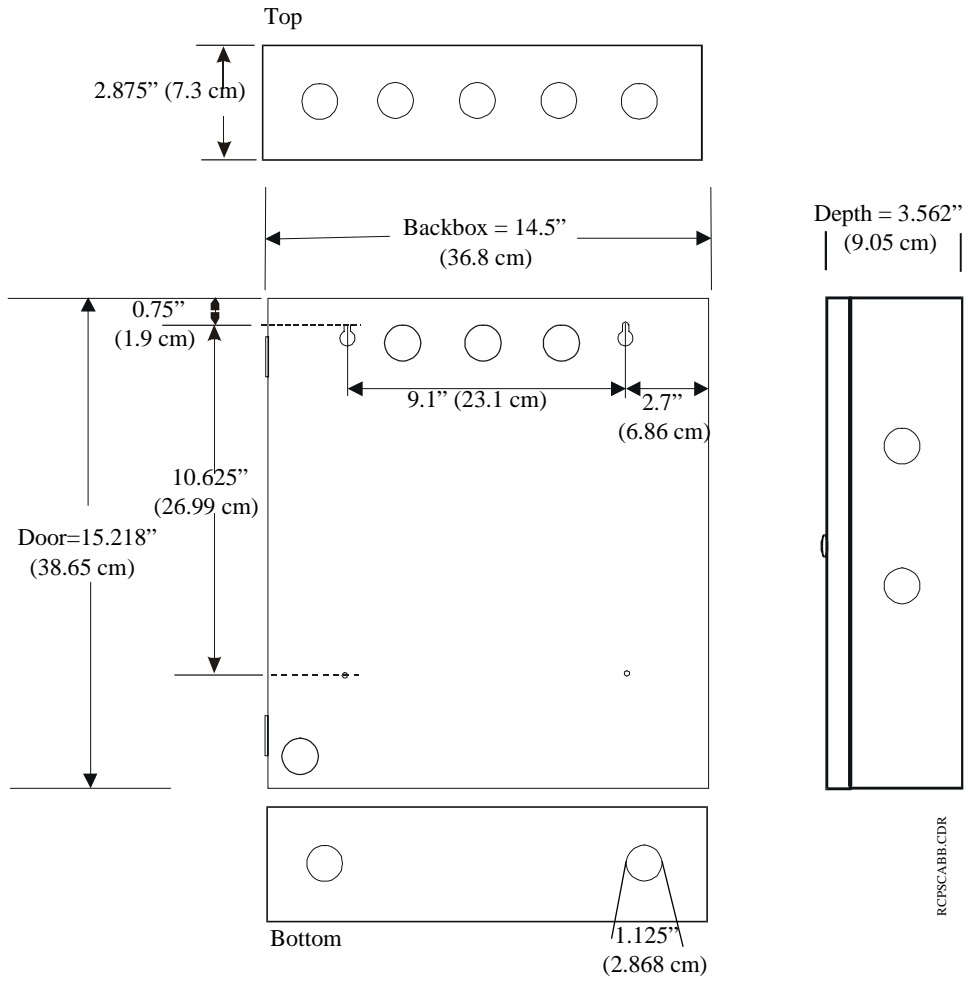

Figure 2.1 Backbox Mounting Dimensions
7. When the location is dry and free of construction dust, reinstall the main PC board. Refer to Figure 2.1 on page 11